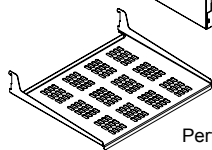

Figure 12a
(2) perforated metal cantilever shelves. (See Figure 12a).